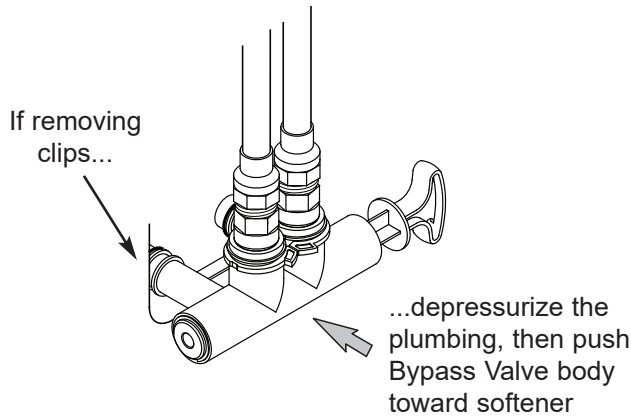

FIG. 15
7. Check for leaks around clips at softener's inlet and outlet. If a leak occurs at a clip, depressurize the plumbing (turn off the water supply and open faucets) before removing clip. When removing clips at the softener's inlet or outlet, push the single bypass valve body toward the softener (See Figure 15). Improper removal may damage clips. Do not reinstall damaged clips.